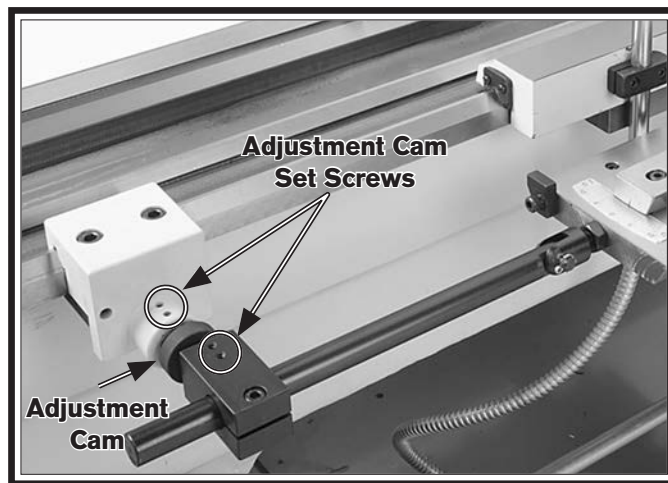

Figure 19. Adjustment cam set screws.
- a.** Loosen the four adjustment cam set screws shown in **Figure 19**.